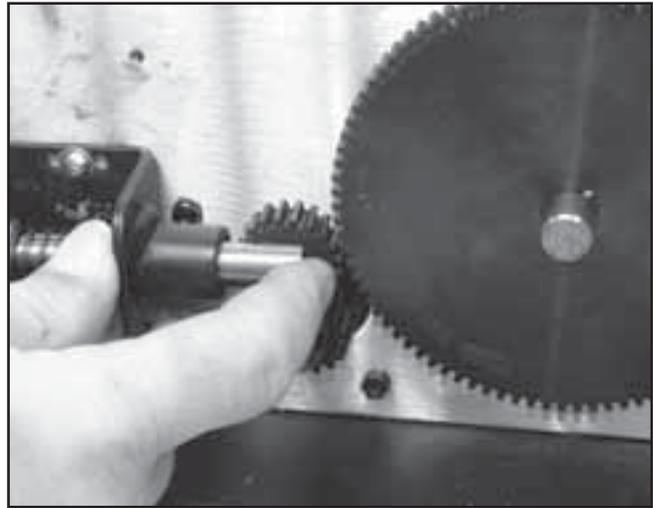

FIGURE 6.38
- 13. Manually release the Solenoid and simultaneously fully extend the Traction Cord. Release Solenoid and make certain the Solenoid Gear fully engages the Large Driven Gear. See Figure 6.38.